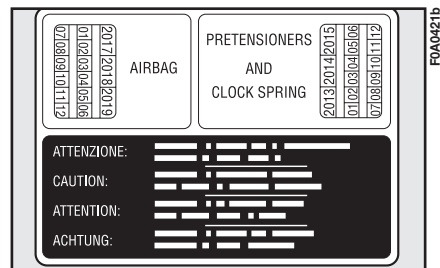

fig. 9
**The pretensioner can only be used once. Following a collision that has triggered it, have it replaced at a Fiat Dealership. Pretensioner validity is written on the plate, fig. 9, set inside the glove box. Have pretensioners replaced at a Fiat Dealership as this date approaches.**